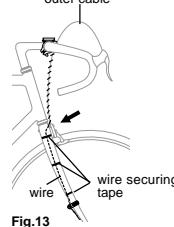

Fig.13
- Secure the wire with tape as fig. 13. Wind the wire round the outer cable and adjust length. Loosen the wire in the area marked with the arrow so that the wire does not hinder handlebar operation.